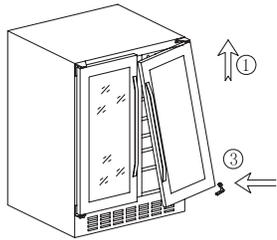
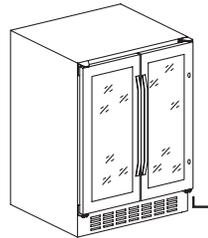

Fig:4
Fig:5
3. Fig:4 - Tilt the door and insert to the top like '1' shows, then move the door levelly to make it in the same level with the cabinet '3'. Fig:5 before tighten the bottom screws, make sure the door is in the same level with the cabinet.